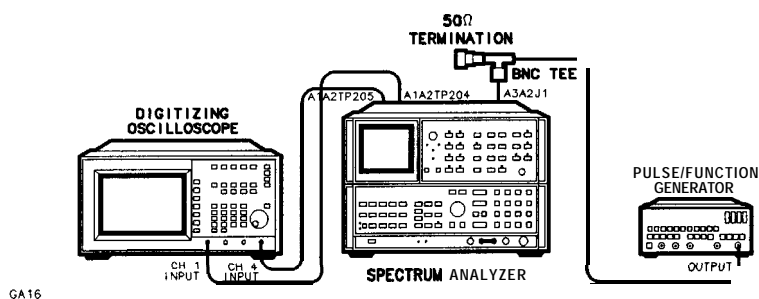
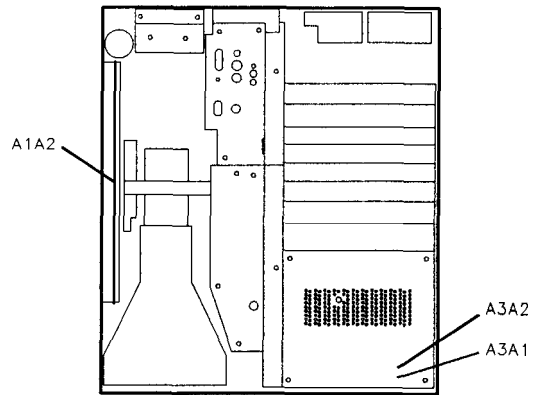
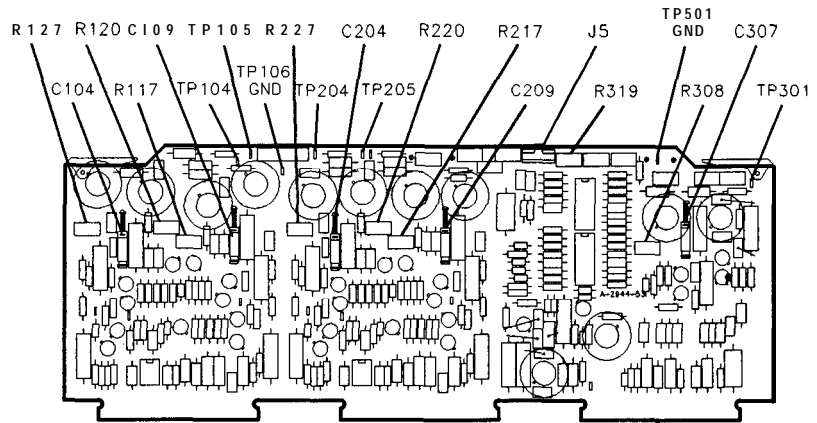
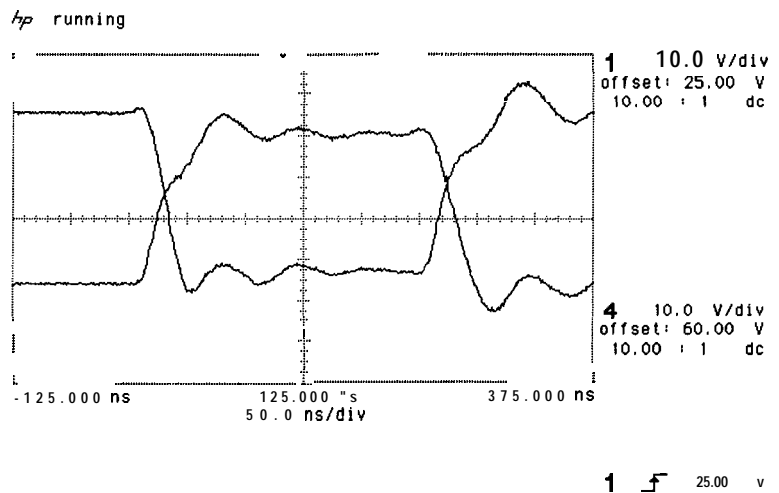

Figure 3-23. Preliminary Display Adjustments Setup
Figure 3-24. Location of A1A2 and A3A2
Figure 3-25. A1A2 Adjustment Locations
Figure 3-26. X+ and X- Waveforms
8. Connect the channel 1 10:1 divider probe to A1A2TP204, and the channel 4 probe to A1A2TP205, as shown in Figure 3-23. Connect the probe ground leads to A1A2TP106. See Figure 3-24 and Figure 3-25 for the location of the assemblies and test points.
9. Set the spectrum analyzer LINE switch to standby. Remove the cover over A3 Digital Storage Section and remove A3A2 Intensity Control Assembly. Insert the Display Adjustment PC board (HP part number 85662-60088) into the A3A2 slot. See Figure 3-24 for the location of the A3A2 assembly.
11. Connect the output of the pulse/function generator to J1 (X input) on the Display Adjustment PC board in the A3A2 slot as shown in Figure 3-23.
14. The X+ deflection and X- deflection waveforms should be superimposed on the oscilloscope display, as shown in Figure 3-26. If necessary, adjust A1A2R227 X POSN and A1A2R220 X GAIN for a centered display of at least four vertical divisions. See Figure 3-25 for the location of the adjustments.
19. Connect the oscilloscope channel 1 probe to A1A2TP104 and the channel 4 probe to A1A2TP105. See Figure 3-25 for the location of the test points. Connect the output of the pulse/function generator to J2 (Y input) on the Display Adjustment PC board in the A3A2 slot.